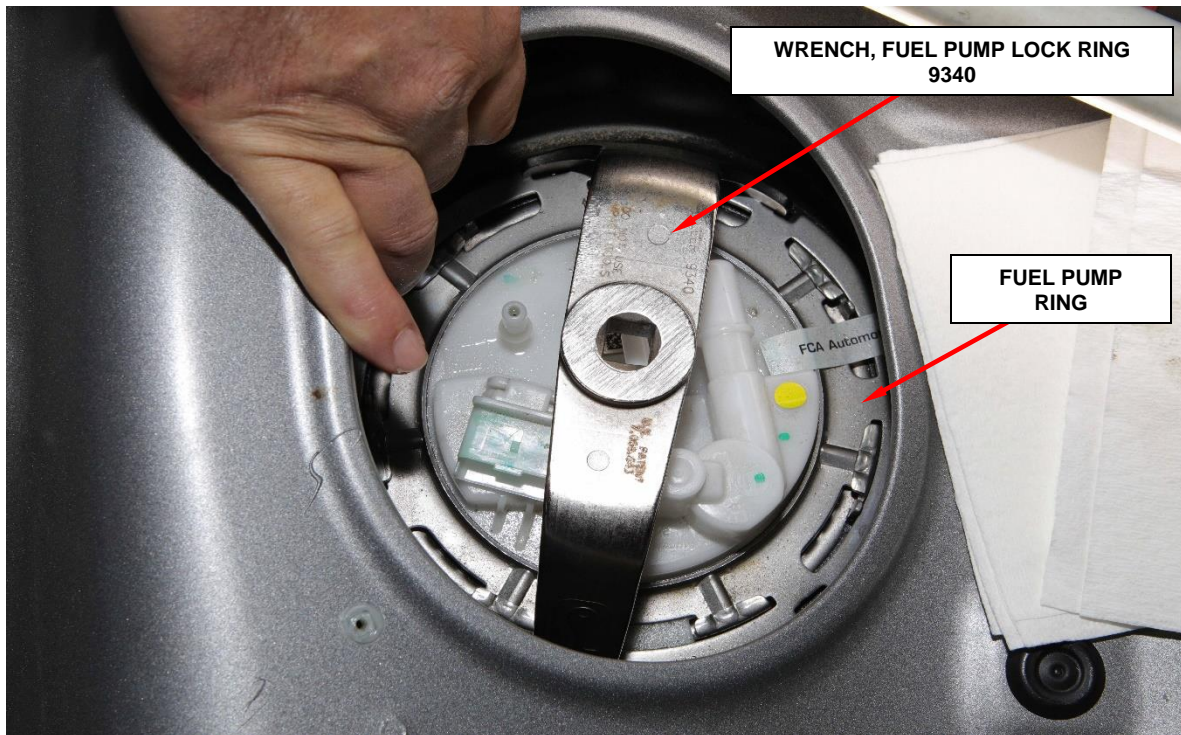

Figure 9 – Fuel Pump Lock Ring Wrench
45. Place special tool (wrench, Fuel Pump Lock Ring 9340) onto the fuel pump ring and turn the wrench counter clockwise to loosen the fuel pump ring, then remove the ring from the fuel pump module (Figure 9).